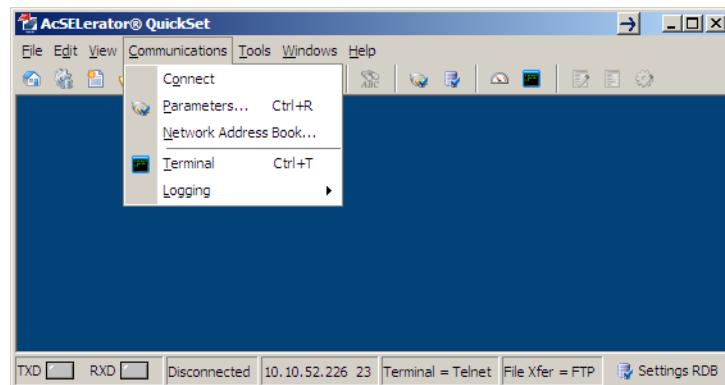

Figure 3.23 Communications Parameter Menu Selection
Step 1. Select **Communications** from the QuickSet main menu bar, as shown in *Figure 3.23*.